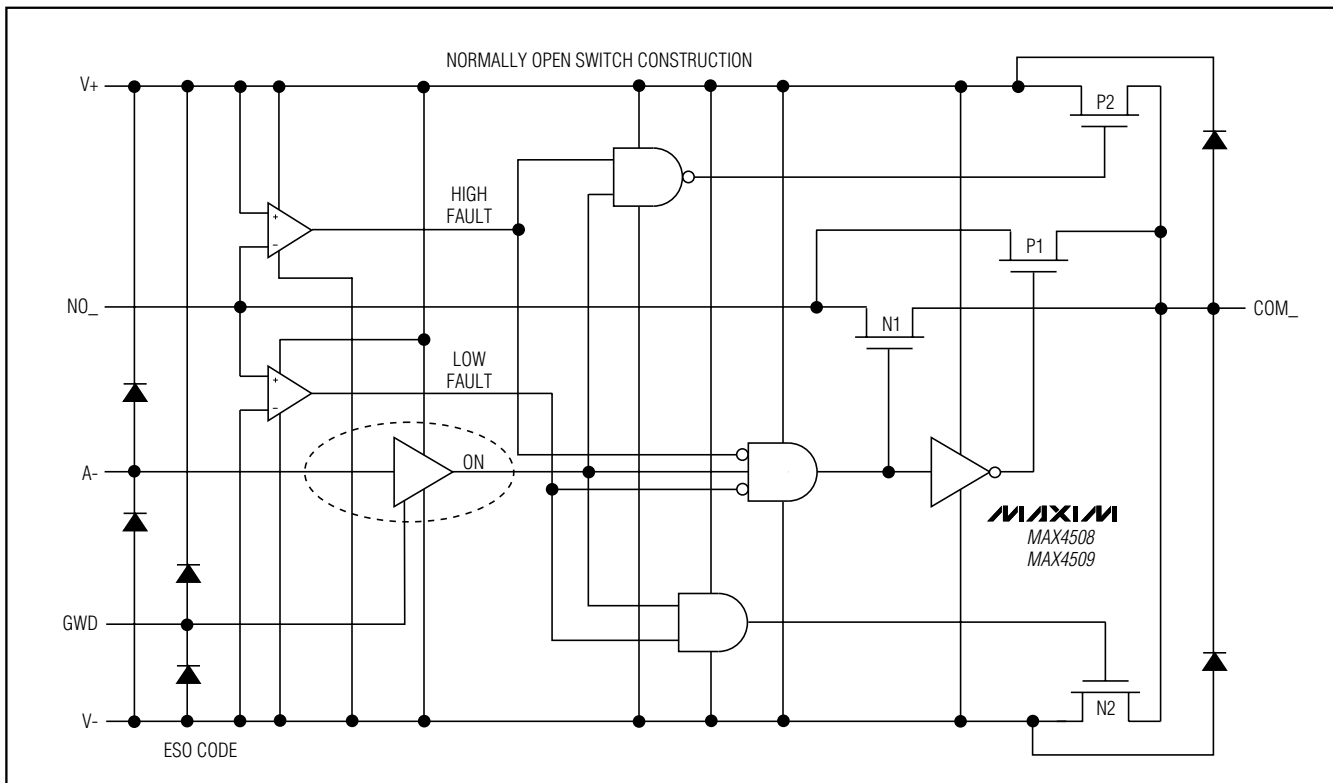

Figure 1. Functional Diagram
Figure 1 shows the internal construction, with the analog signal paths shown in bold. A single normally open (NO) switch is shown. The analog switch is formed by the parallel combination of N-channel FET N1 and P-channel FET P1, which are driven on and off simultaneously, according to the input fault condition and the logic level state.
Two comparators continuously compare the voltage on the NO- pin with V+ and V- supply voltages. When the signal on NO- is between V+ and V-, the multiplexer behaves normally, with FETs N1 and P1 turning on and off in response to A- signals (Figure 1). The parallel
When the signal on NO- exceeds V+ by about 150mV, the positive fault comparator output goes high, turning off FETs N1 and P1 (Figure 1). This makes the NO- pin high impedance, regardless of the switch state. If the switch state is “off,” all FETs turn off, and both NO- and COM- are high impedance. If the switch state is “on,” FET P2 turns on, clamping COM- to V+.
When the signal on NO- goes about 150mV below V-, the negative fault comparator output goes high, turning off FETs N1 and P1 (Figure 1). This makes the NO- pin high impedance, regardless of the switch state. If the switch state is “off,” all FETs turn off, and both NO- and COM- are high impedance. If the switch state is “on,” FET N2 turns on, clamping COM- to V-.
FETs N2 and P2 can source about ±10mA from V+ or V- to the COM- pin in the fault condition (Figure 1). Ensure that if the COM- pin is connected to a low-impedance load, the absolute maximum current rating of 30mA is never exceeded, either in normal or fault conditions.